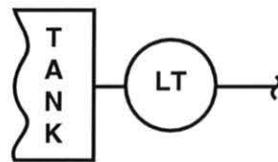

Figure 44. Level Sensing Element Symbol
8. Determine which type of level sensing element symbol is shown in figure 44.